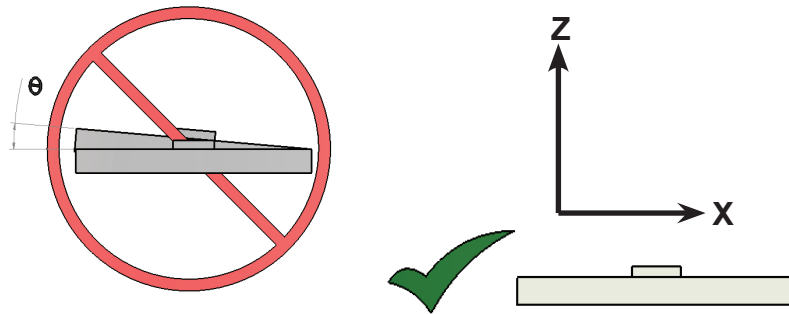

Figure 9: Angular misalignment on the left and proper alignment on the right.
3. **Are the actuators mounted level to each other?** Angular misalignment in the will apply an unfavorable bending moment in the My-axis on the bearing system of both units. (See figure 9.)